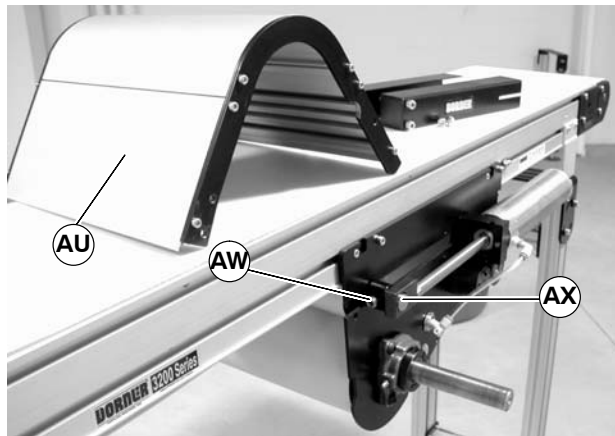
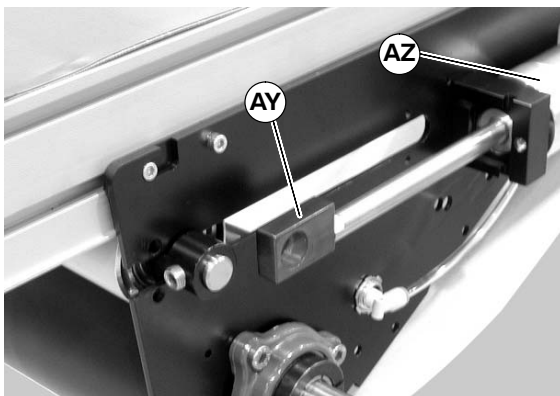

Figure 24
Figure 25
7. Loosen tensioning roller set screws (AW of Figure 24).
8. Push shaft (AX of Figure 24) through block, slide block (AY of Figure 25) towards air cylinder (AZ).